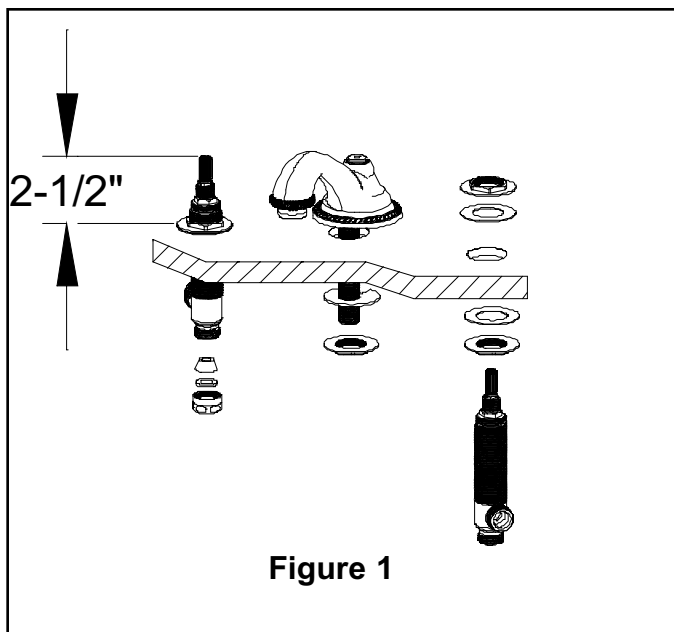

Figure 1
1. Place the spout shank through center hole of mounting surface. Secure spout, (spout base ring, if supplied), into place with spout washer and nut (align the washer's slot in direction of pop-up rod). See Fig. 1
2. Place nut & washer on valve body. Insert body, (blue cold & red hot), through hole in the mounting surface. Adjust and secure with additional washer and nut so that the top of valve is **2 1/2"** above the top of mounting surface. See Fig. 1